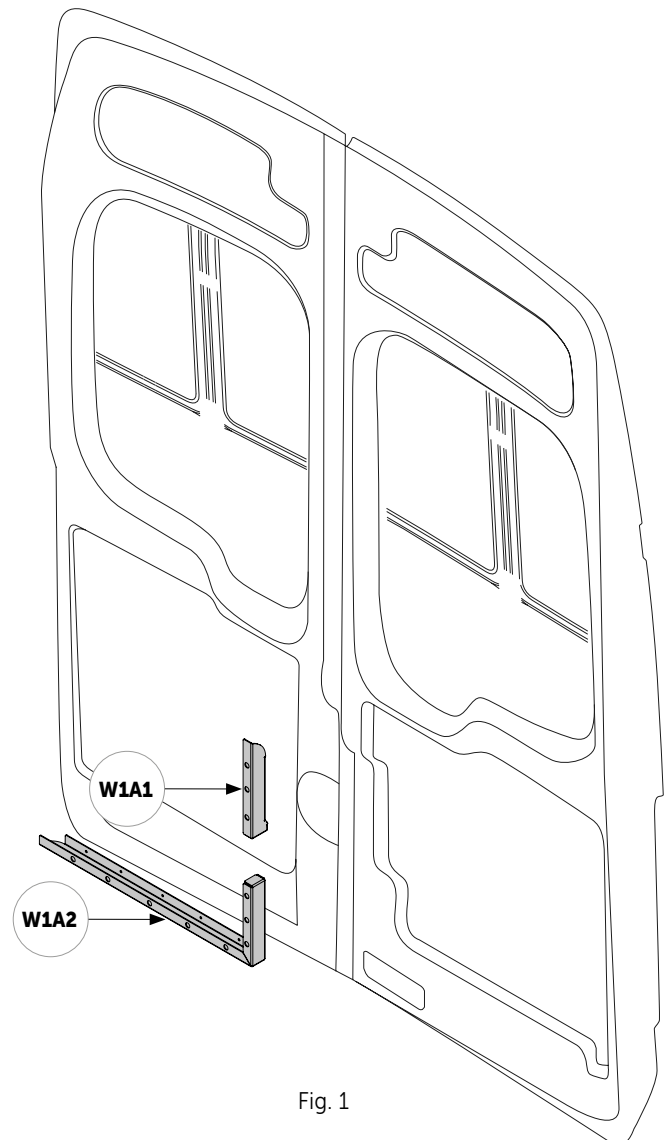
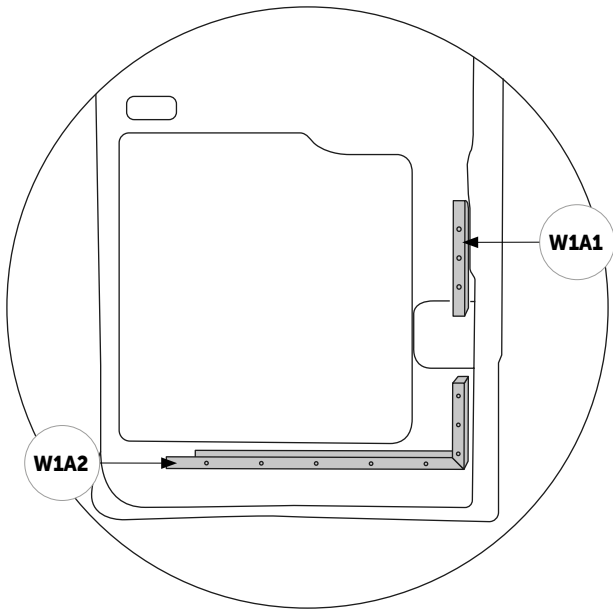

Fig. 1
Fig. 2
1. **W1A1** is mounted in the lower recess (Fig. 1) so that it is flush with the side of the door (Fig. 2) and flush with the edge of the door (Fig. 3). Mark the screw hole locations. Drill the holes and then screw in **W1A1**.
2. The **W1A2** element is mounted below the door handle area. Adjust **W1A2** so that it is level with the previously installed **W1A1** (Fig. 2). Mark the screw hole locations. Drill holes and then screw in the reinforcement – element **W1A2**.